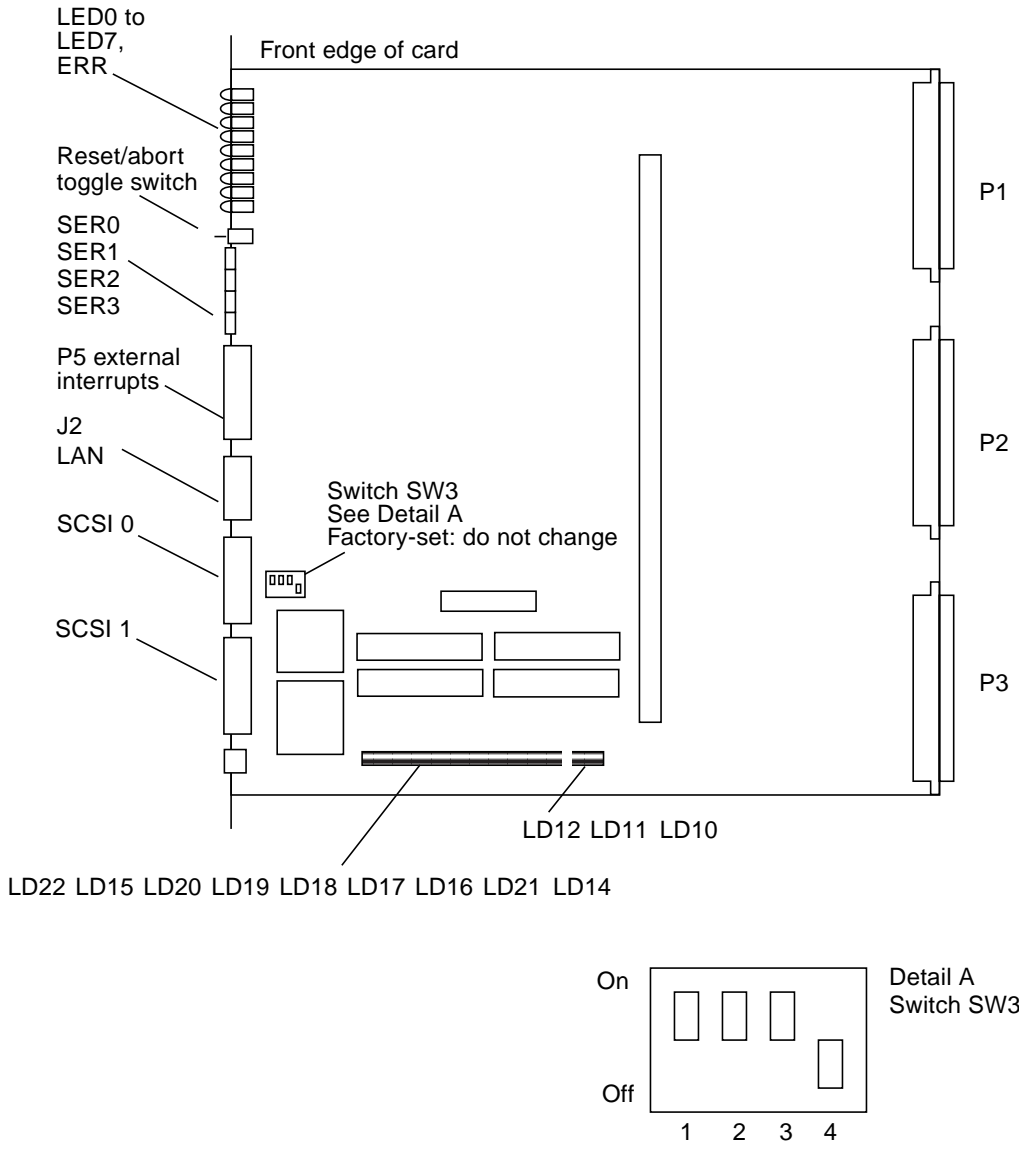
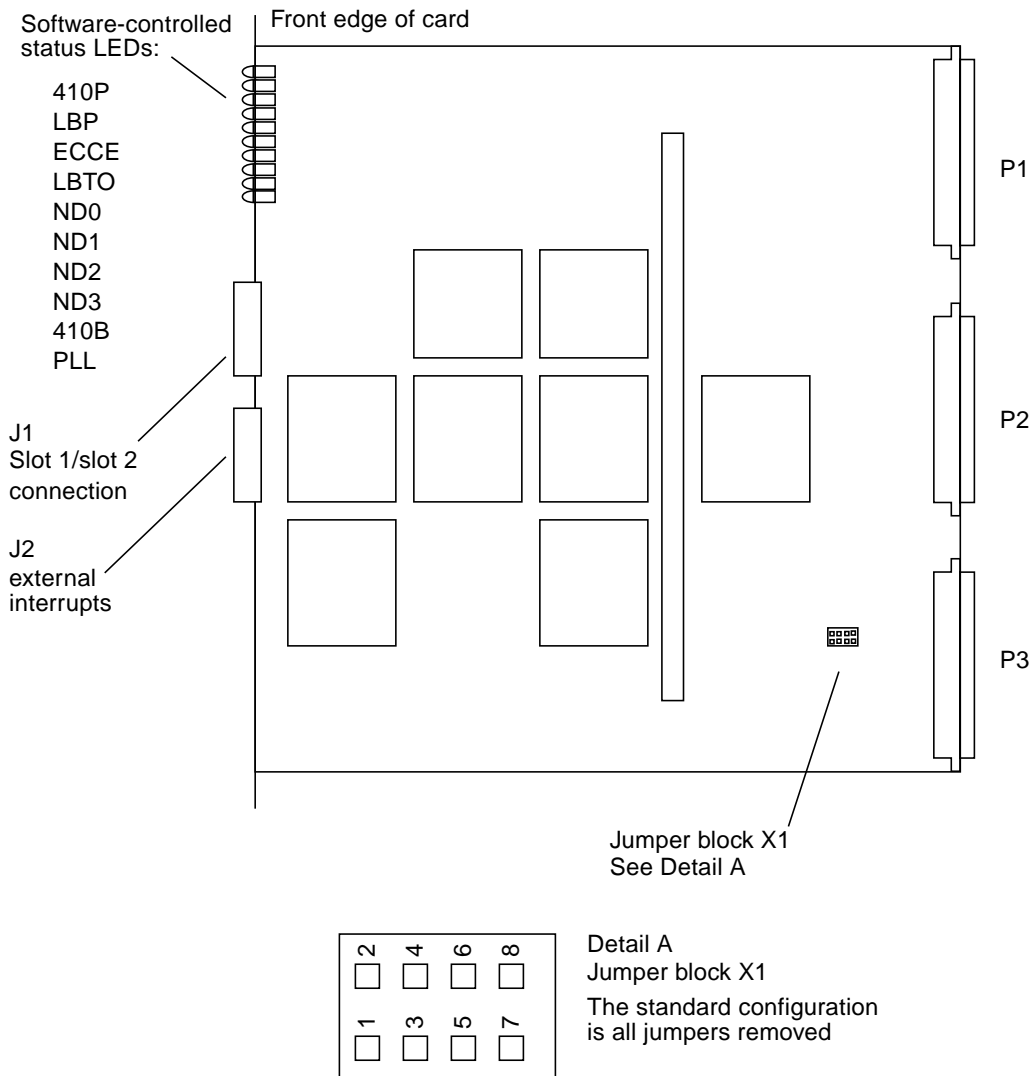

FIGURE 3-1 Adapter Board Layout
FIGURE 3-2 Processor Board Layout
Rear of both boards—FIGURE 3-1 and FIGURE 3-2 show the connectors at the rear of each board:
Adapter board—The first set of LEDs (LED0 through LED7), located on the front edge of the adapter board (see FIGURE 3-1), are software-controlled LEDs. TABLE 3-2 defines the second set, located on the bottom edge of the card.
Processor board—The LEDs located on the front edge of the processor board are software-controlled status LEDs. See FIGURE 3-2 and TABLE 3-3.
- Switch SW3—a four-pole DIP switch, SW3 is reserved for future functionality and should be left as set by the factory. See Detail A in FIGURE 3-1 for factory setting
The adapter board has no field-selectable jumpers. The processor board has one four-position jumper block used for diagnostic test. See FIGURE 3-2. All jumpers are removed for normal operation.